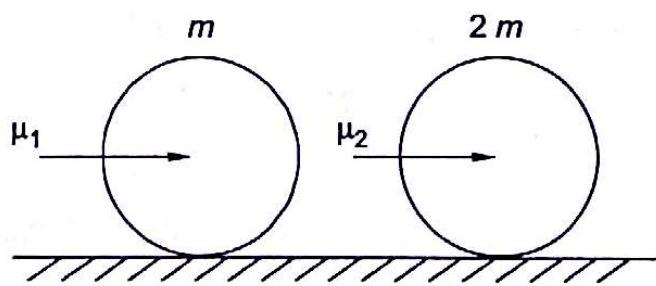

Fig. 21.17
- 21.10 A ball of mass m moves with velocity $u_1 = 4$ m/s impacts with a ball of mass $2m$, which is moving with velocity 2 m/s. The impact is perfectly elastic. What is the velocity of mass m after impact (Fig. 21.17)